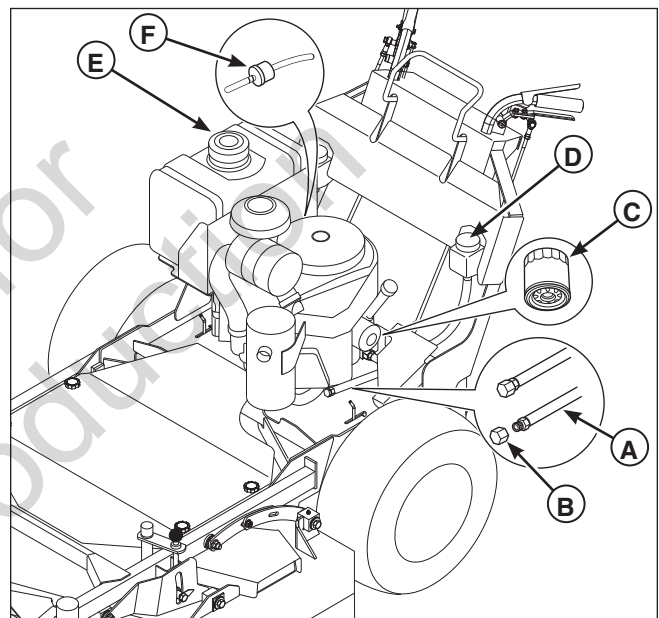

Figure 9. Engine Oil Drain
1. Remove the fuel cap (E, Figure 9).